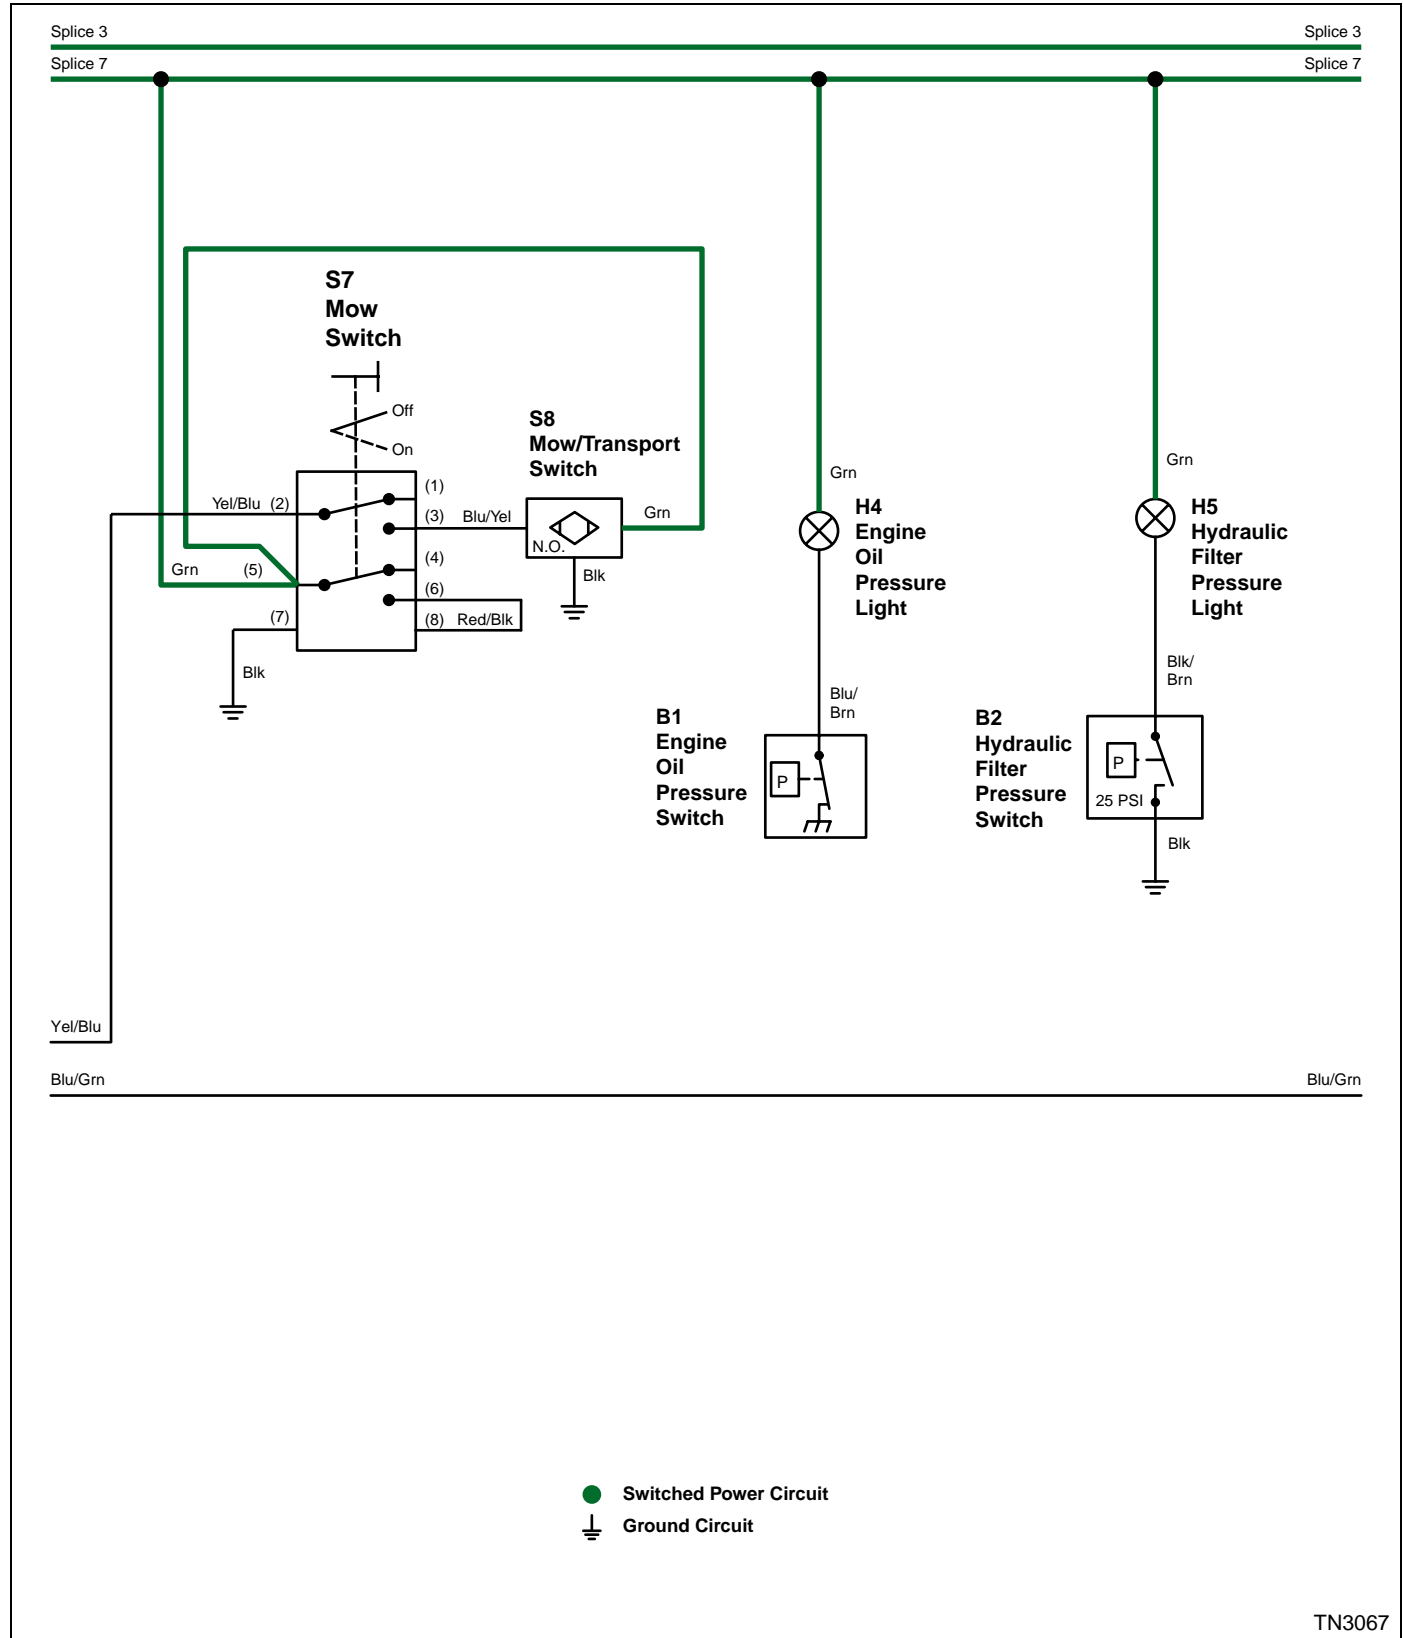

Figure 4-4
- B1—Engine Oil Pressure Switch (See Figure 4-4.)
- B2—Hydraulic Filter Pressure Switch (See Figure 4-4.)
- H4—Engine Oil Pressure Light (See Figure 4-4.)
- H5—Hydraulic Filter Pressure Light (See Figure 4-4.)
- H6—Engine Temperature Gauge (See Figure 4-4.)
- S7—Mow Switch (See Figure 4-4.)
- S8—Mow/Transport Switch (See Figure 4-4.)